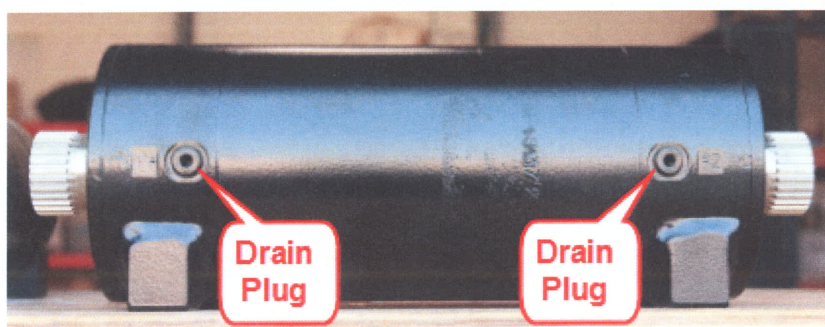

Fig. 9
2. Remove the two drain plugs on the bottom of the actuator (Figure 9).